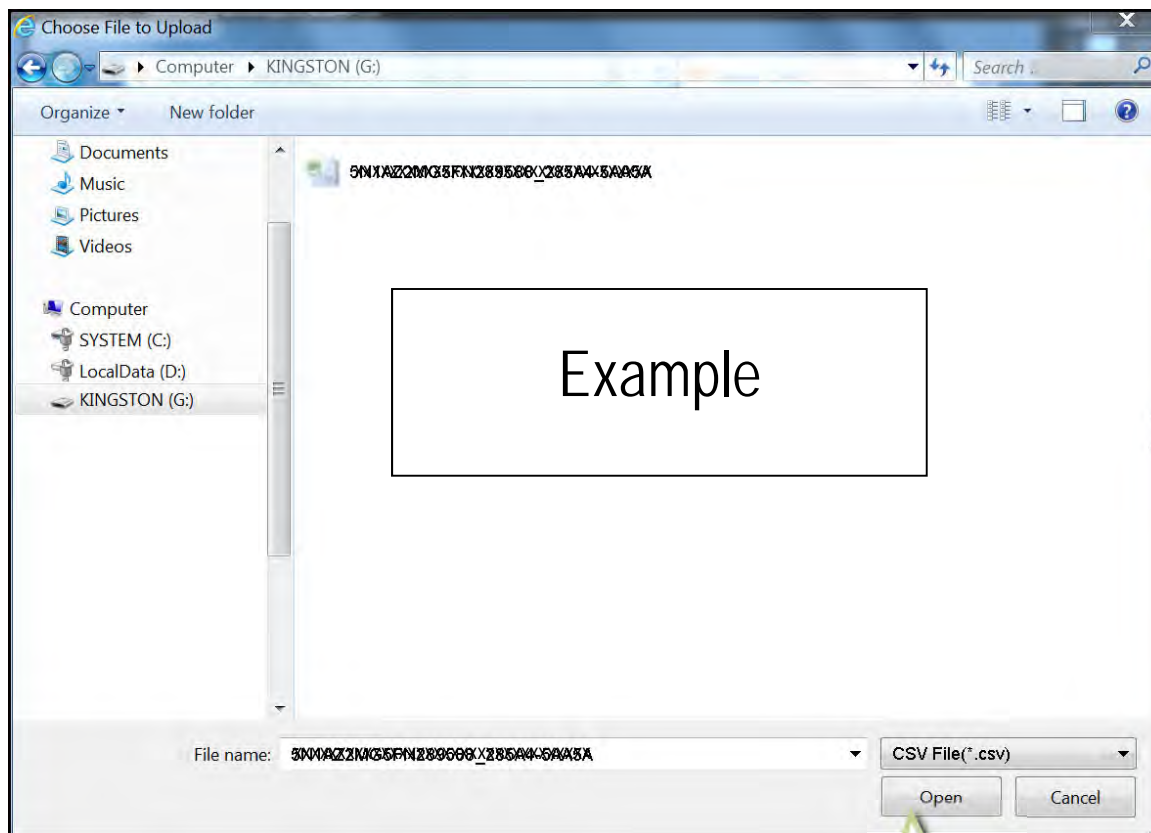

Figure 13A
18. Navigate your CONSULT PC to the thumb drive and select the configuration file (see example in Figure 13A).